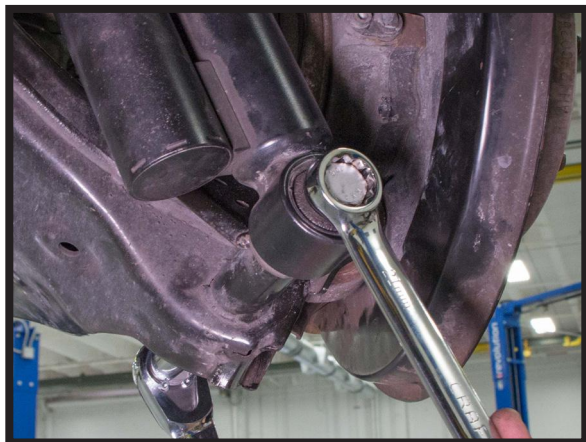

FIGURE 33
9. REMOVE THE LOWER SHOCK MOUNTING NUT AND BOLT (FIGURES 33, 34)